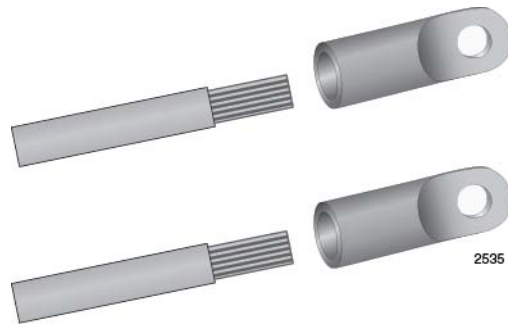

Figure 63. Attaching the Power Wires to the Straight Terminal Lugs
2. Insert the power wires into the terminals included with the power supply and use a crimping tool to secure the wires to the terminals. See Figure 63.